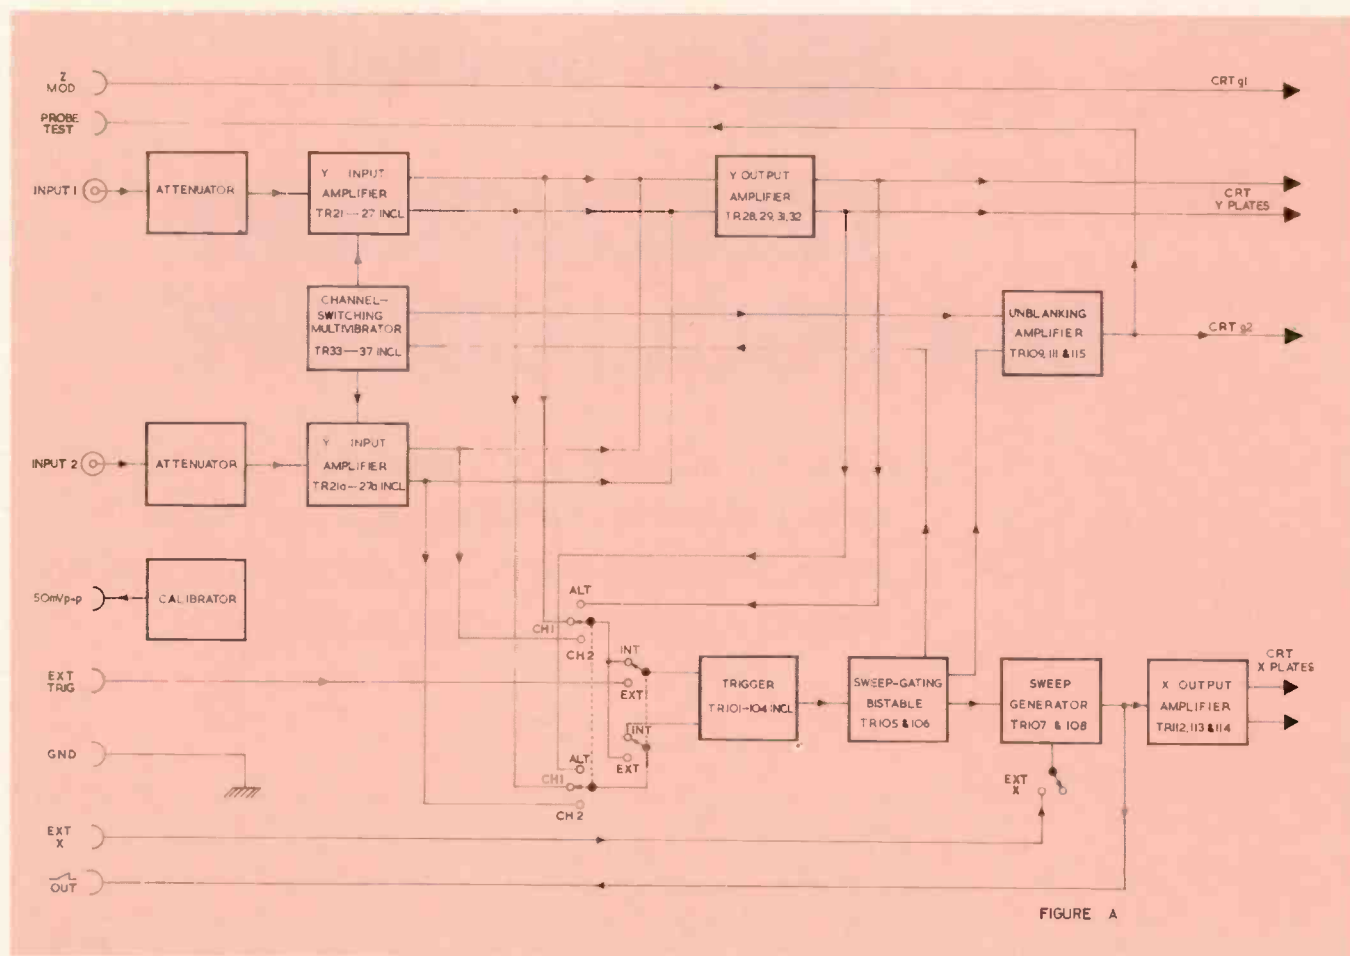

Fig. 1. Block diagram of the Telequipment D54 Dual Trace, Triggered Oscilloscope.
■ Rather than get into a long-winded and very technical description of circuit operation, let's make a tour of this versatile unit by referring to the block diagram in Fig. 1. A brief explanation of the various stages will help you to better understand how a dual trace, triggered scope works. Then we will talk about the use and operation of this unit.